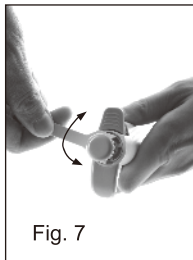

Fig. 7
1. Place the calibration tool into the holes of the calibration adjustment lock (under the thumb button) (Fig.7).